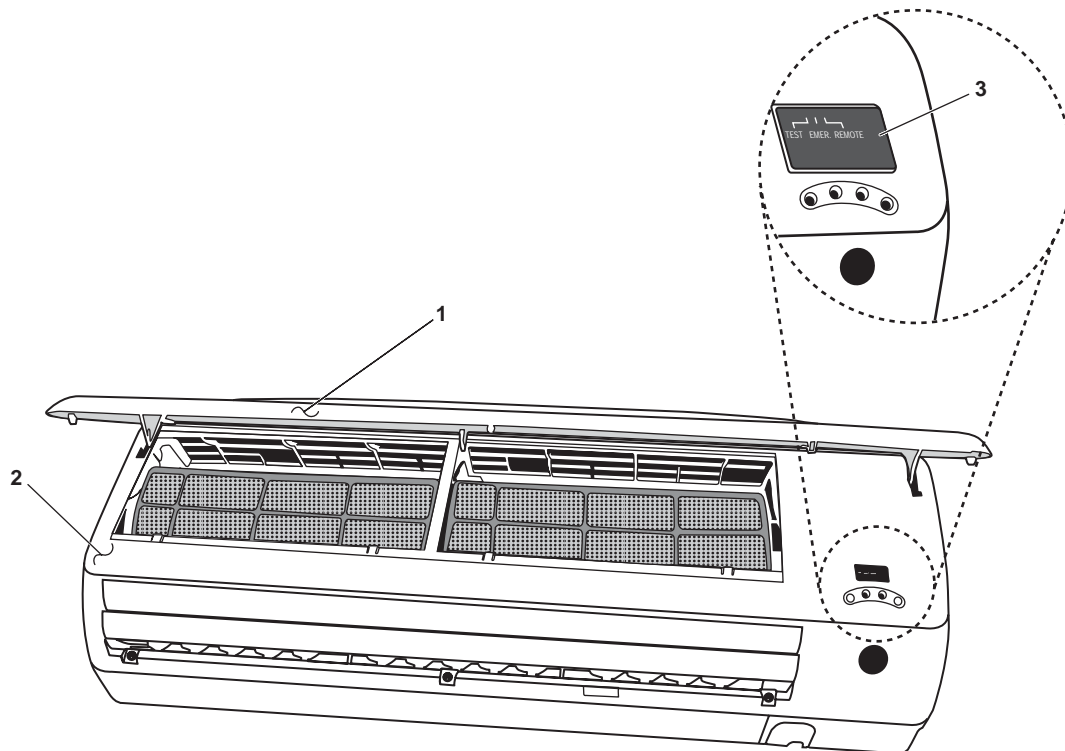

Figure 25. Radio Room Rooftop Air Conditioning Fan Unit (Open)
2. OPEN the cover (figure 25, item 1) on the radio room rooftop air conditioning fan unit (figure 25, item 2).
3. Set the TEST EMER. REMOTE switch (figure 25, item 3) on the fan unit (figure 25, item 2) to the REMOTE position.
4. CLOSE the cover (figure 25, item 1) on the radio room rooftop air conditioning fan unit (figure 25, item 2).